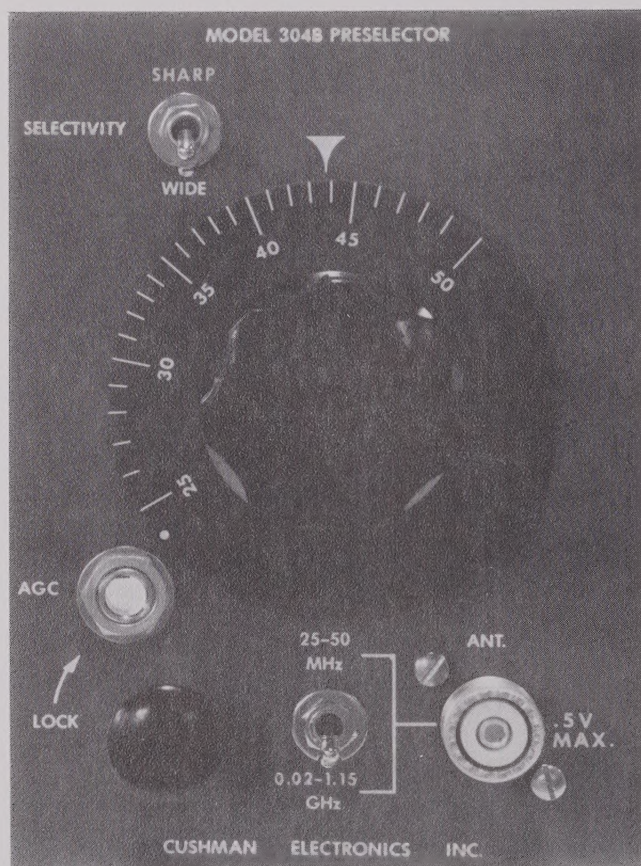

Figure 1-1. Model 304B Preselector
- 2.01 The functions of the front panel controls and connectors shown in figure 1-1 are given in Table B.